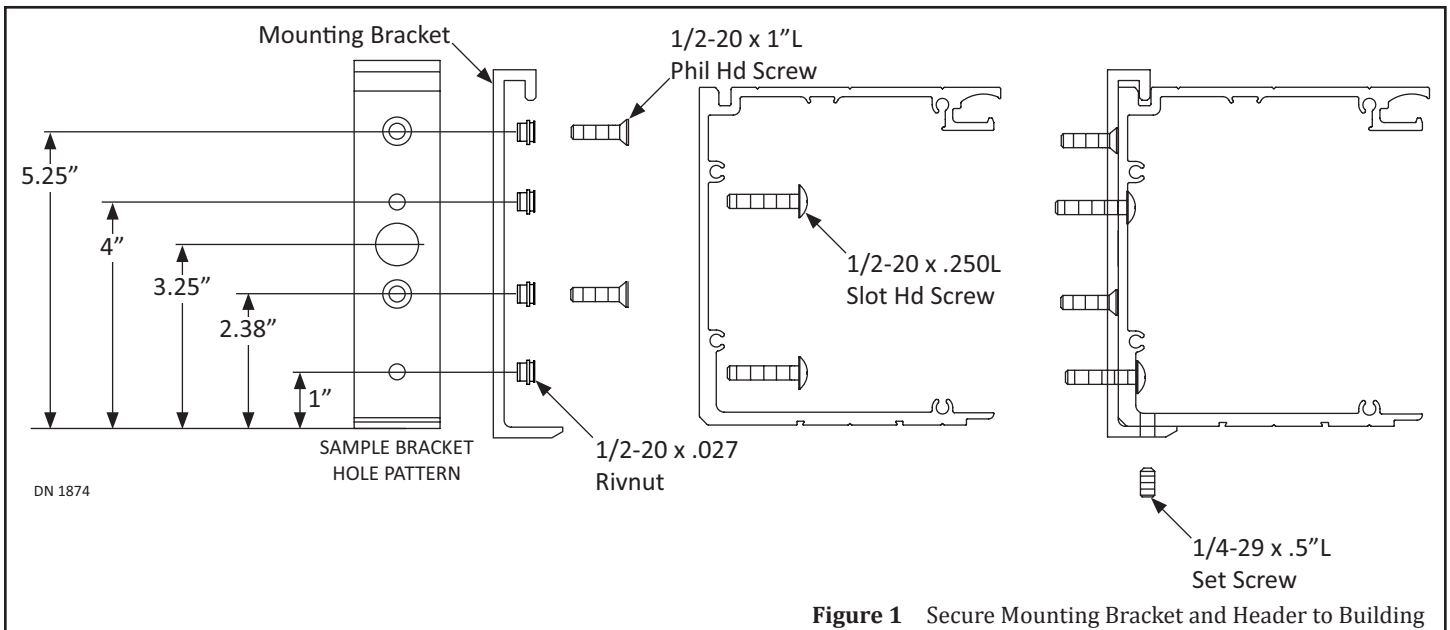

Figure 1 Secure Mounting Bracket and Header to Building
1. Assemble the Mounting Bracket onto the Header. Measure and mark (8) 0.391 holes for Rivnuts. Please see the Hole Pattern sample on Figure 1.
2. Remove the Header. Insert (8) Rivnuts into the holes located on the back face of the Mounting Bracket.
3. Secure the Mounting Bracket to the Frame with (4) 1/4-20 x 1"L, Phillips Head Screws.
4. Secure the Header to the Mounting Bracket with (4) 1/4-20 x 2.25"L, Slot Head Screws.
5. Go to the bottom of the Mounting Bracket/Header assembly. Measure and Mark (4) holes for 1/4-20 Set Screws.
6. Secure the bottom of the Mounting Bracket/Header assembly with (4) Set Screws.